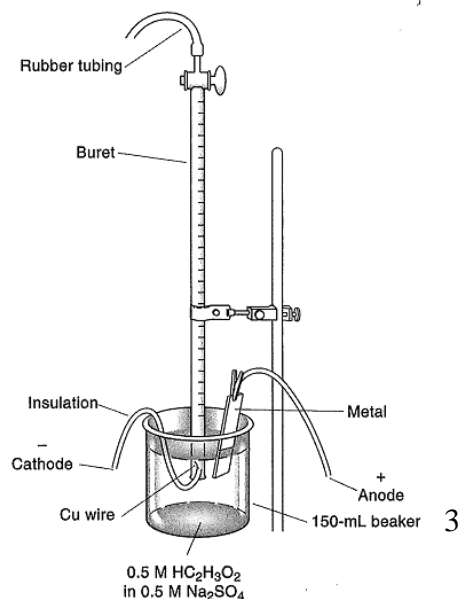

Figure 1. Electrolysis Apparatus
15. Set up an electrolysis apparatus as shown in Figure 1. Use a ring stand and buret clamp to secure an *inverted* buret over a 150-mL beaker. Carefully bend a piece of insulated copper wire to fit in the beaker with the exposed tip completely inside the open end of the buret. Lower the buret such that the wire is trapped between the buret and the bottom of the beaker. Attach a small length of rubber tubing to the top of the buret. Add 100 mL of 0.5 M  $\text{HC}_2\text{H}_3\text{O}_2$  in 0.5 M  $\text{Na}_2\text{SO}_4$  to the beaker. Use a pipet bulb to draw the solution up the buret to the 50-mL mark. You will need to open the stopcock on the buret